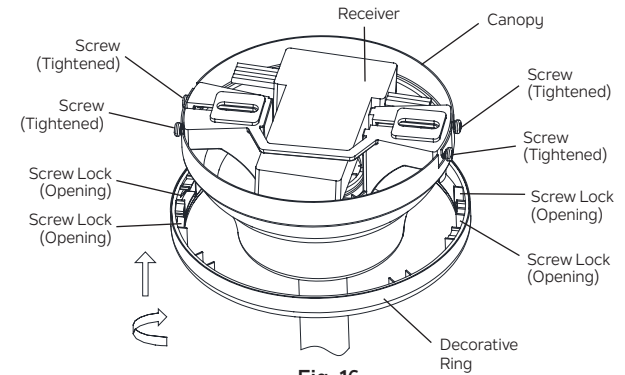

Fig. 16
Step 5. Carefully raise the decorative ring up to the top of the canopy. **(Fig. 16)**
NOTE: The decorative ring will slide up into position when aligned with the screw heads on the ceiling mounting bracket. Align the openings in the top of the screw locks (2 on each side of the decorative ring) with the 2 screw heads on each side of the ceiling mounting bracket. **(Fig. 16)**
Carefully turn the decorative ring (clockwise) until it locks into position on the screw heads. **(Fig. 16)**